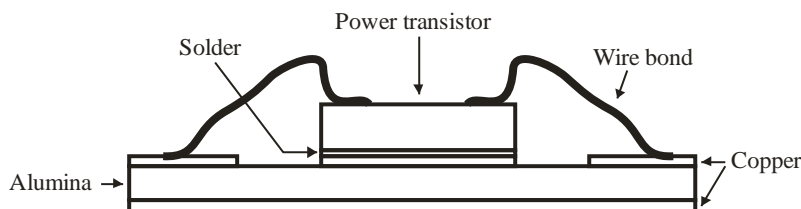

Figure 4
- d. A $10 \times 10 \times 1$ mm insulated gate bipolar transistor (IGBT) module dissipates 200 W and is packaged on a direct-bond copper (DBC) substrate, as shown schematically in Figure 4 (below). The bottom copper surface is in contact with a water cooling channel, which is maintained at room temperature. What is the temperature of the top surface of the silicon IGBT? Please show your working and indicate what assumptions you have made. Thermal conductivity data is provided at the front of the exam paper.